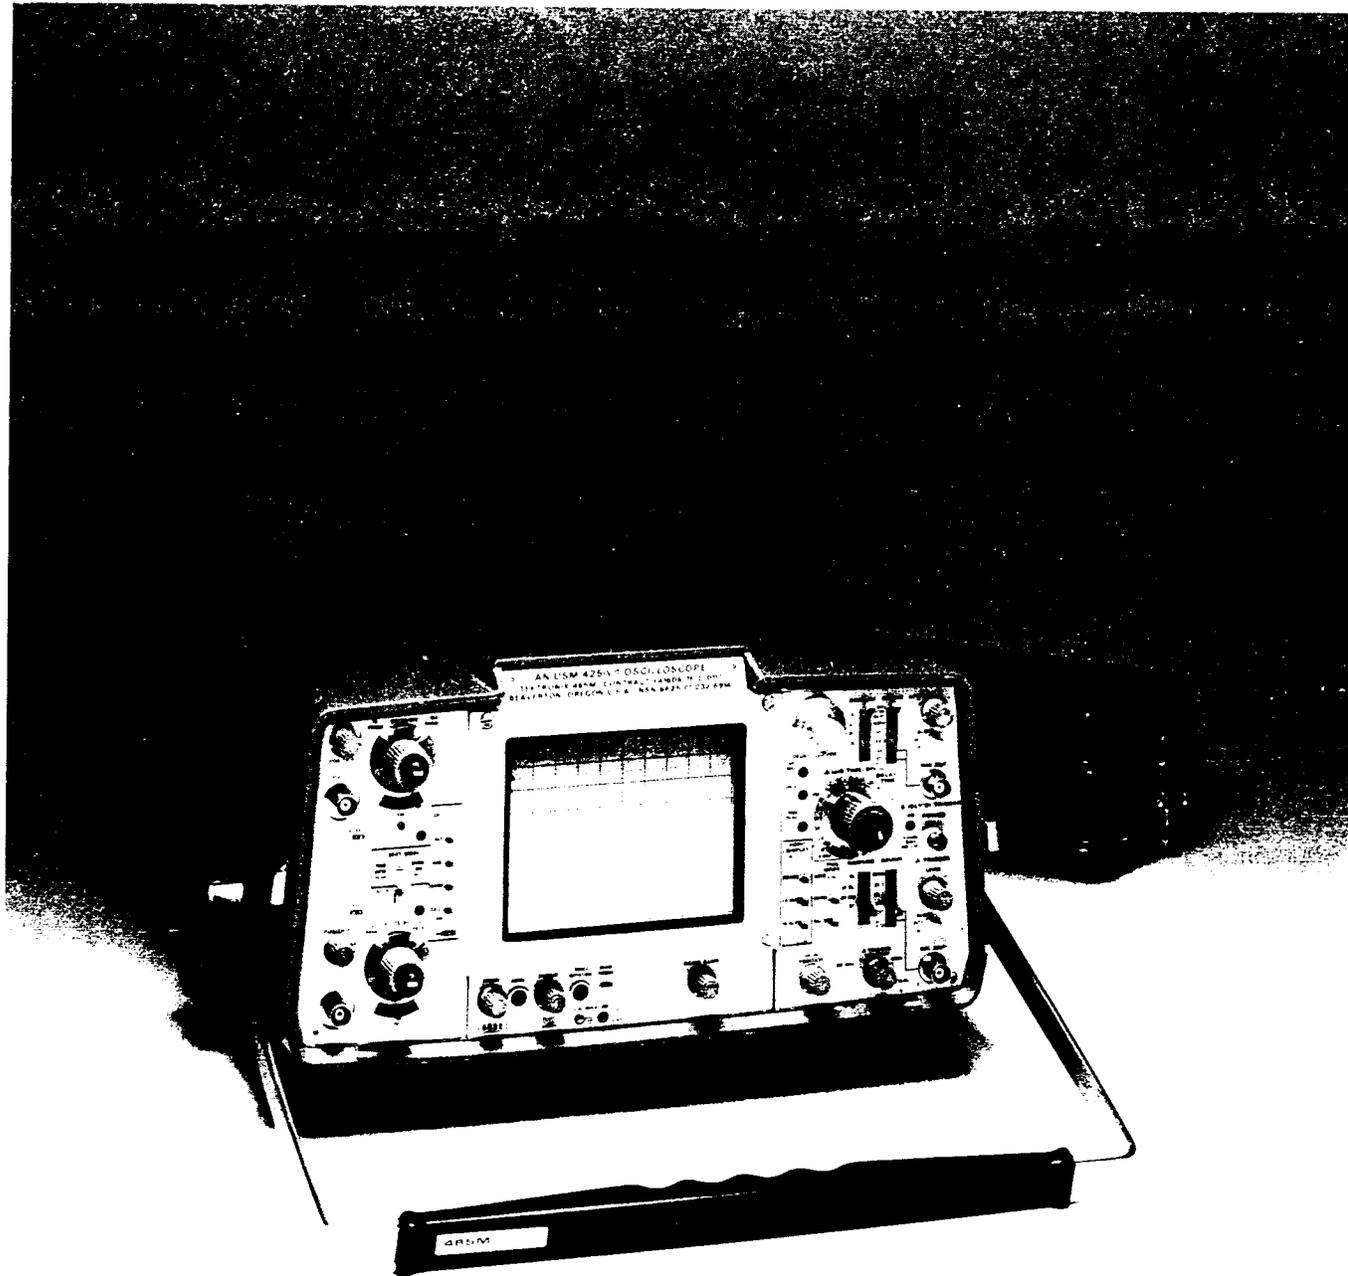

Figure 1-0. AN/USM-425(V)1 with cover.
a. **Equipment Description.** The AN/USM-425(V)1 is a solid state, dual channel, 100 megahertz bandwidth, delayed sweep, general purpose oscilloscope. Each vertical channel has ten calibrated deflection factors from 5 millivolts/division to 5 volts/division selected in a 1-2-5 sequence. The horizontal deflection system has calibrated sweep rates of 0.5 seconds/division to 0.05 microseconds/division in 22 steps. It also has delayed sweep rates of 50 milliseconds/division to 0.05 microseconds/division in 19 steps. A ten times magnifier expands each horizontal sweep rate to a maximum of 5 nanoseconds/division. An X-Y display mode is provided through vertical mode and horizontal sweep speed selection. The instrument with its detachable front cover and accessories is shown in Figure 1-0.